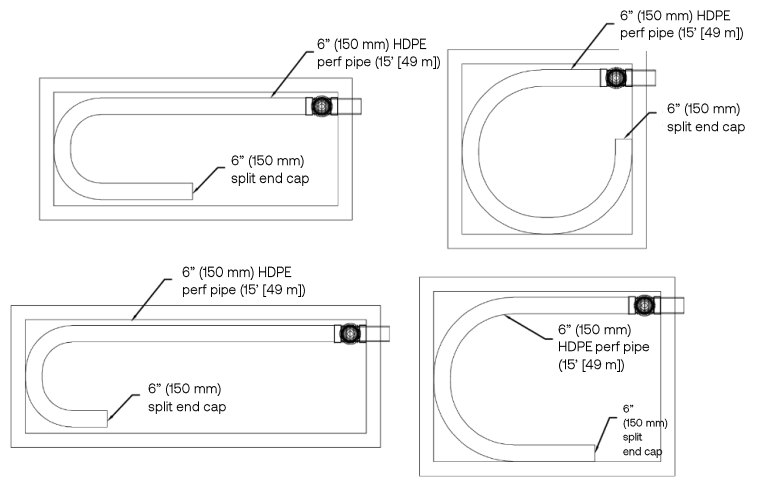

Figure 7: Underdrain configurations for EcoStream models using Underdrain Kit 2
2. Install the underdrain assembly (figure 7). See drawing detail for assembly components.
- e. Install 15' (4.6 m) of 6" (150 mm) perf pipe as shown in figure 7.
- f. Attach 6" (150 mm) split end cap to end of underdrain pipe as shown in figure 7.